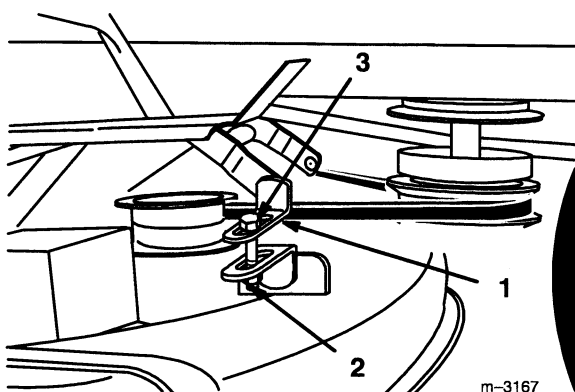

Figure 11
6. To adjust front-to rear blade level loosen jam nut on both front adjustable links. (Fig. 11).
7. Rotate the bolt on each front adjustable link to change front-to rear blade level (Fig. 11).